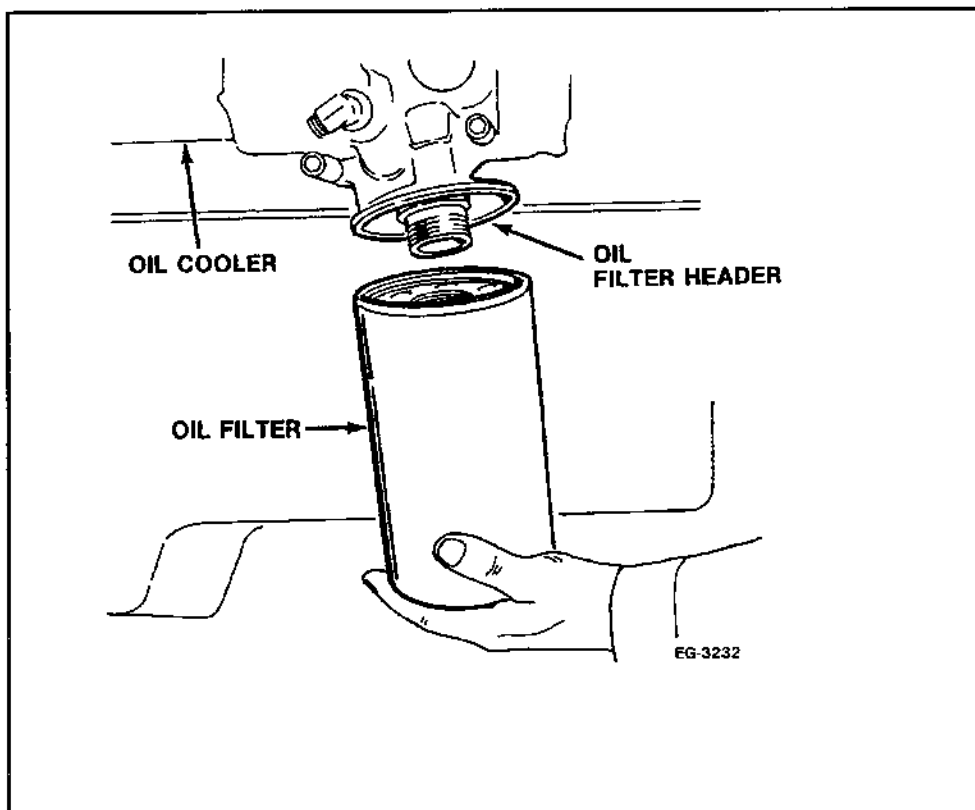

Figure 8-4 Oil Filter
- a. Remove old oil filter and discard. See Figure 8-4